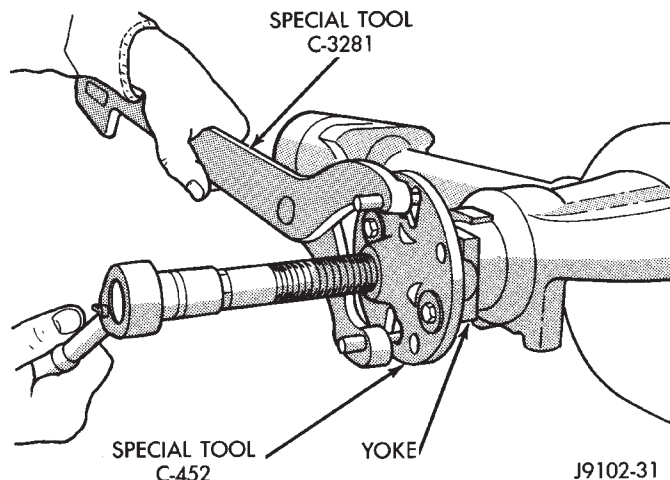

Fig. 28 Pinion Yoke Removal
- (1) Remove differential assembly from axle housing.
- (2) Mark pinion yoke and propeller shaft for installation alignment.
- (3) Disconnect propeller shaft from pinion yoke. Using suitable wire, tie propeller shaft to underbody.
- (4) Using Holder 6958 to hold yoke, remove the pinion nut and washer.
- (5) Using Remover C-452 and Holder C-3281, remove the pinion yoke from pinion shaft (Fig. 28).